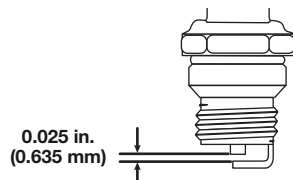

Fig. 23
6. Use a feeler gauge to set the air gap at **0.025 in. (0.635 mm)** (Fig. 23).